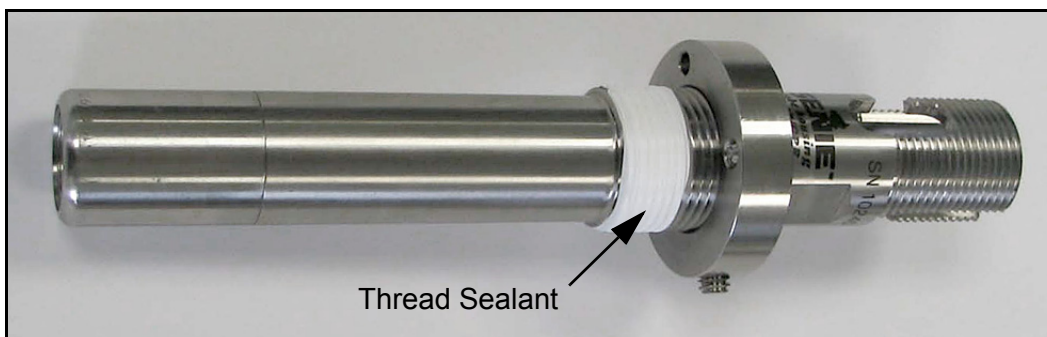

Figure 11: Applying Thread Sealant
1. Turn the locking mechanism counter-clockwise until it is at its extreme upper position. Apply thread sealant to the threaded area below vertical slots in the threads (see *Figure 11* below). Do not allow the thread sealant to enter the slot, as it may interfere with the mechanism.